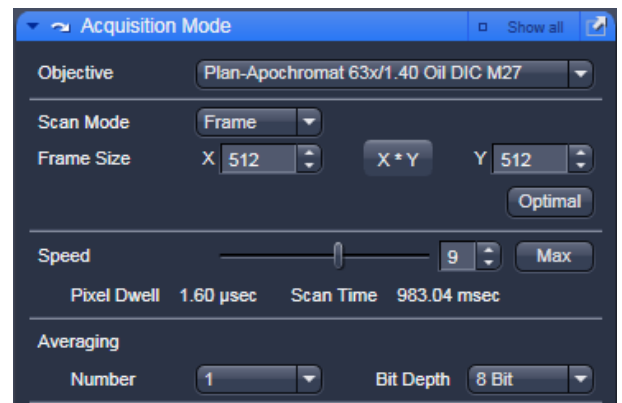

Fig. 224 Acquisition Mode tool
- Open the **Acquisition Mode** tool (Fig. 224).